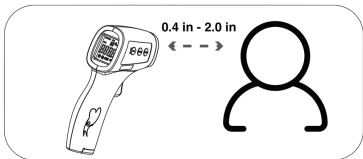

Figure 3
- Ensure the distance between the thermometer and the patient's forehead is between 0.4" and 2.0" (1cm – 5 cm). See Figure 3.